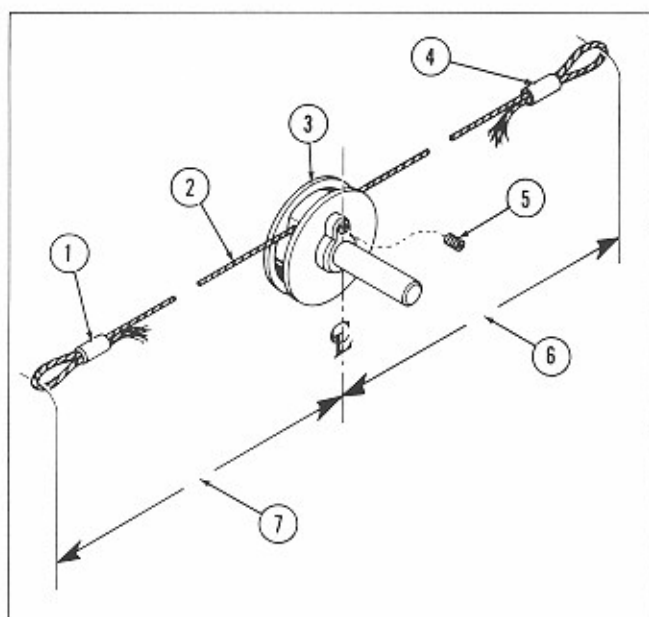

Fig. 87. TURNTABLE CABLE AND DRIVE PULLEY
(1) Pass the cable through the hole in the drive pulley (Item 2) and form loops on the cable ends in accordance with measurements shown in Fig. 87.
(2) Using the set screw (Item 5, Fig. 87) lock the cable firmly in the pulley in accordance with the measurements (Items 6 and 7).